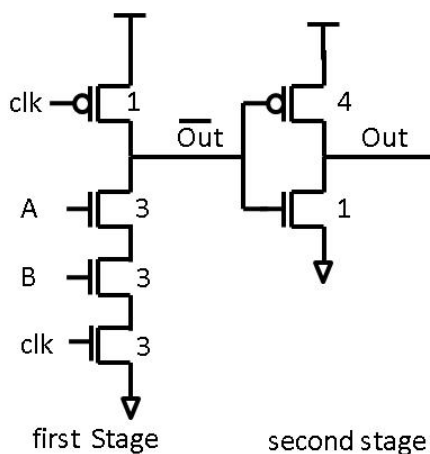

Fig.3a Domino Logic
- (b) **(3 pts)** A 4-input AND gate can be implemented by using three 2-input domino AND gates as shown in Fig.3a. We properly size each stage in the 4-input AND gate to minimize the delay of the evaluation phase. What is the minimum delay ($T_{p,EV}$) in the worst-case during the evaluation phase?